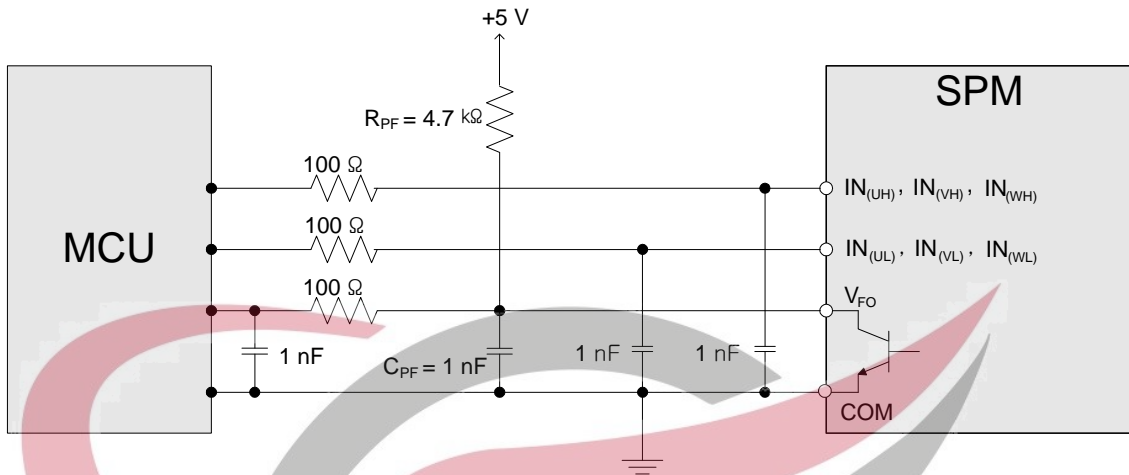

Figure 11. Recommended MCU I/O Interface Circuit
3. VFO output is open-collector type. This signal line should be pulled up to the positive side of the 5 V power supply with approximately 4.7 kΩ resistance (please refer to Figure11).